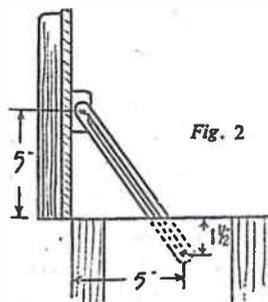

Fig. 2
distance of 1/2 in. from each end, bore 1/2 in. holes. Extend the bottom hole to make a long slot reaching to within 1/2 in. of the top hole, as in the diagram. In the ends of the box, at the distance down of 1 1/2 ins. and 5 ins. from the rear (as shown in Fig. 2), drill a 1/2 in. hole through, and insert bolts provided with a washer and flynut.
For the top fitting of the stays, cut blocks of wood 2 ins. long and 1/2 in. wide. The stays are pivoted to these with flat-headed screws, the holes being countersunk to sink the screw heads. Fix the blocks with screws to the inside of the lid, where shown at Fig. 2, slip the lower ends of the stays over the bolts in the ends of the box as at Fig. 3 (C), then, if correctly positioned, the lid should close down fully. If not, extend the slot a trifle, which should make all right. When the lid is opened, tighten up the nuts to keep the stays from slipping down. Fit a hook and eye fastener to the box front and lid to complete the work of construction.
As the lid is to be used, as required, as a blackboard, a pair of stays should be fitted to keep it in a vertical position for that purpose. Of course, a pair of metal stays can be purchased at most hardware shops, but if expense is a consideration, and metal stays are not so cheap nowadays as they used to be, a quite good article can be made oneself with a small bit of tough fretwood or 1/2 in. plywood. The positions of the stays, when holding the box lid up, are shown in Fig. 2, and length of the stays in Fig. 3 (B).